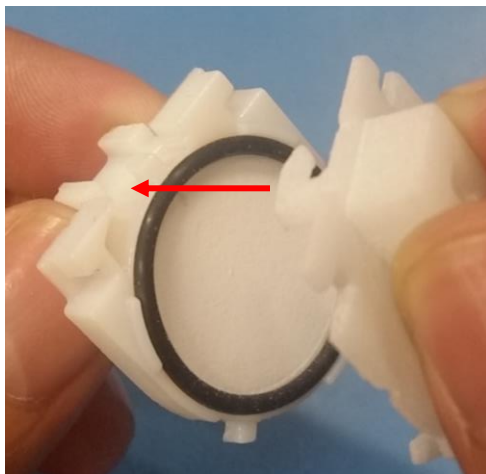

Figure 14. Prepare to reassemble the filter Cassette halves
5. Prepare to reassemble the filter Cassette halves as shown in **Figure 14**.